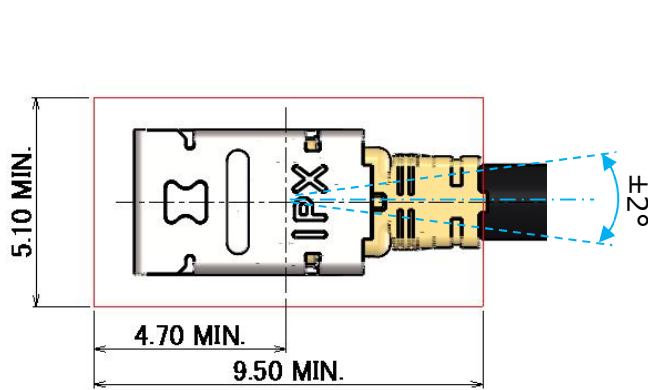
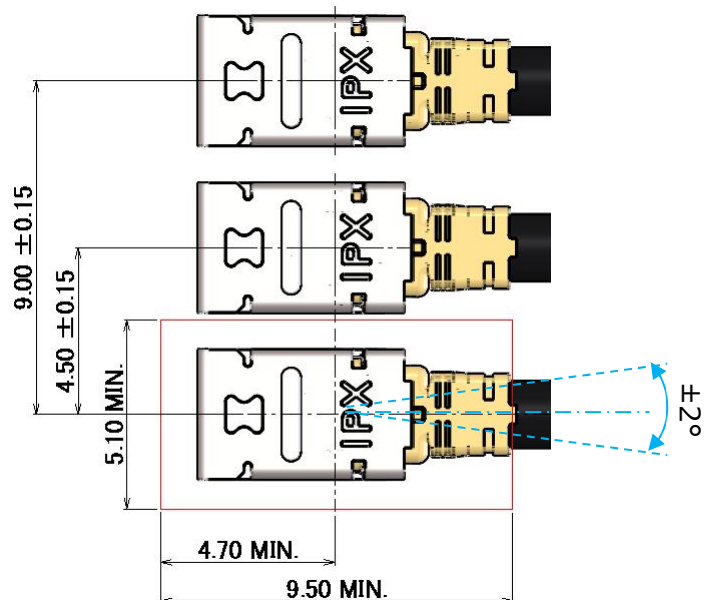

Figure 28
Figure 29
- Secure the space as shown in Figure 28 for the jig operation. Figure 29 is the layout of MHF I LK Harness in pitch 4.5 mm. The  $4.5 \pm 0.15$  mm pitch layout enables jig access.